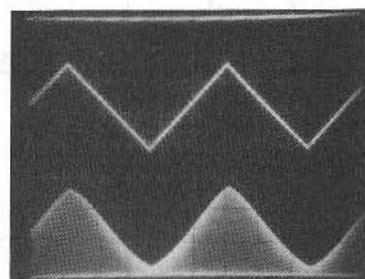

Fig.5: Optimum Mixer Stage operating point
A mixer can also be used in similar fashion, as Fig.5 shows. Of course, according to my experiments, there are no good mixers with UG2S = 0. The selection of UG2S = UG1S, which could also contribute to the reduction of the number of components, does not work well. CF 300 mixers can be obtained from Althaus (1) and Reuschle/Shah (4), but clearly measure from other standpoints. The setting found here works in quasi-linear fashion up to an input voltage of 1.3V_{ss}. If the demands for linearity are not too great, you can, for example, use it as an AM modulator in a signal generator.